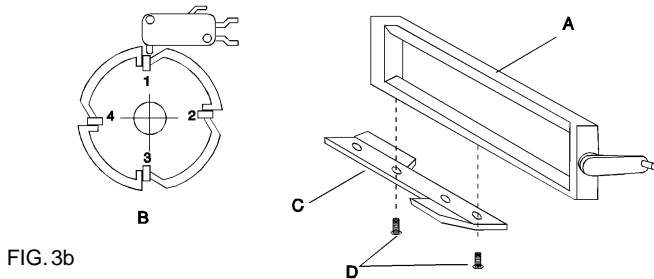

FIG. 3b
- leave the 4 slots on the cam open (see Fig. 3b);